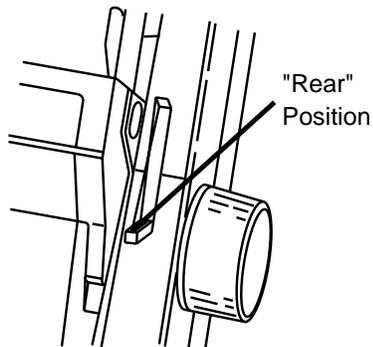

Figure 9-2. Model 602 Paper Select Lever
2. Move the paper select lever to the rear position. See Figure 9-2.